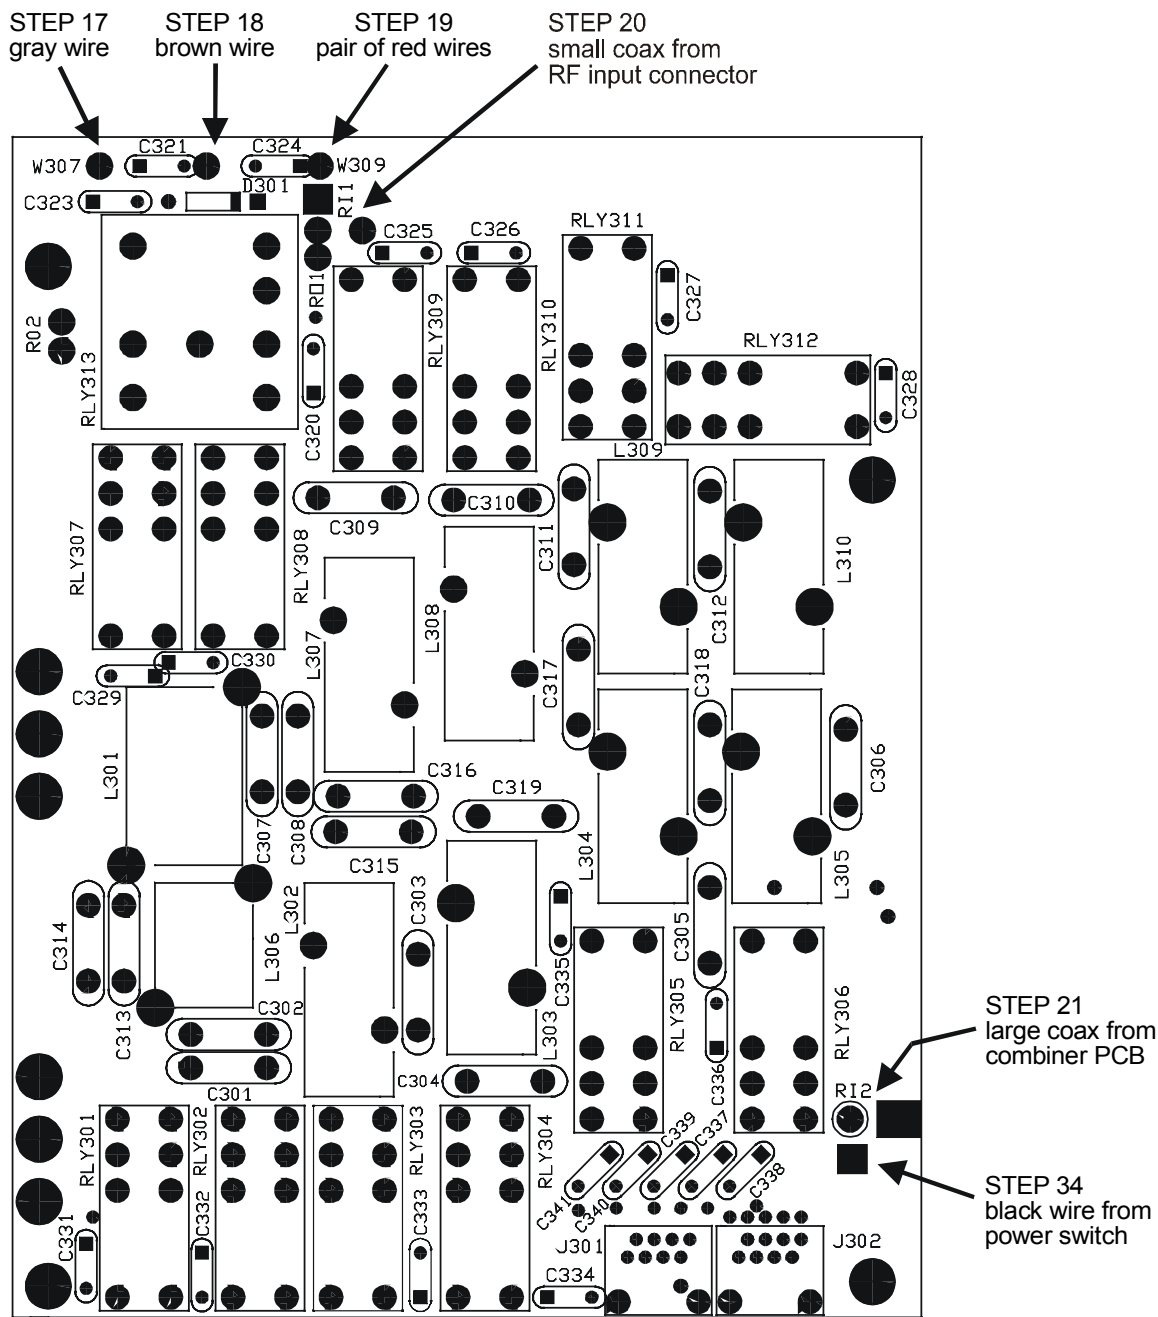

Figure 3
17. Solder the gray wire that was removed in step 4 to W307. See Figure 3.
18. Solder the brown wire that was removed in step 4 to the empty hole between C321 and C324. See Figure 3.
19. Solder the pair of red wires that was removed in step 4 to W309. See Figure 3.
20. Locate the small coax coming from the RF IN Connector on back of the amplifier. Place the center conductor of the small coax into RI1 hole and solder. Solder the shield to the silver pad with a hole, next to RI1. See Figure 3. **Caution: Do not touch relay with soldering Iron.**
21. Locate the larger coax that comes from the combiner board. Cut the coax for the center conductor to fit into the hole label RI2 and solder. Solder the shield to the silver pad next to RI2. See Figure 3. **Caution: Do not touch relay with soldering Iron**
34. Solder the black wire from the power switch to the silver ground pad next to RI2. See Figure 3.